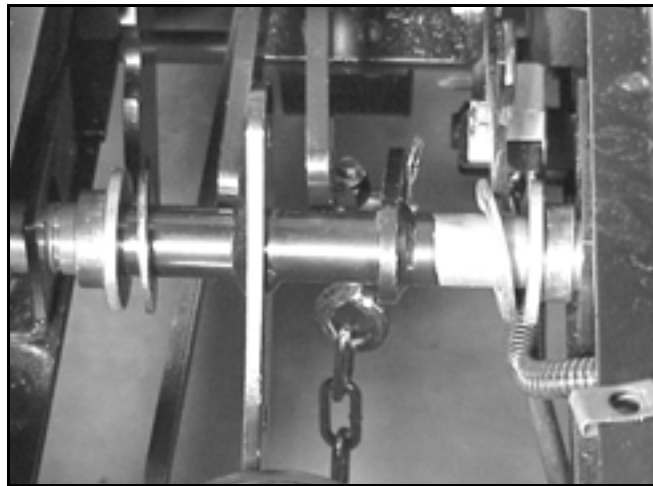

Figure 60
3. Slide the right and left flange bearings inward from the pivot linkage brackets, so you will have enough clearance to remove the lift lever assembly (Figure 60).